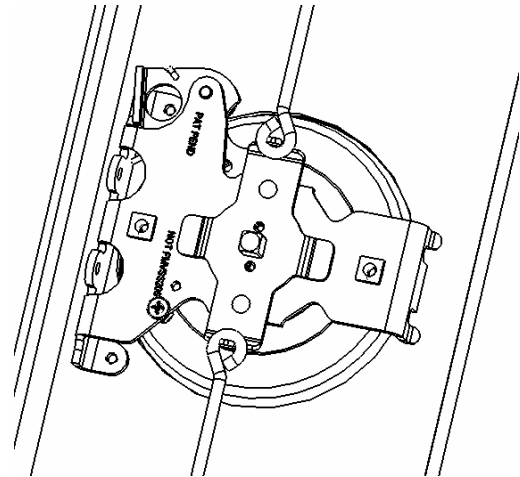

Figure 2
STEP 6: Make sure the rotaries are fully engaged, then install each ROD onto the ROD PULLER shown in Figure 2 above. Each ROD should fit onto the ROD PULLER without too much wiggle. If adjustment is needed, turn the rod $\frac{1}{2}$ turn at a time to ‘tighten up’ the fit on the ROD PULLER.